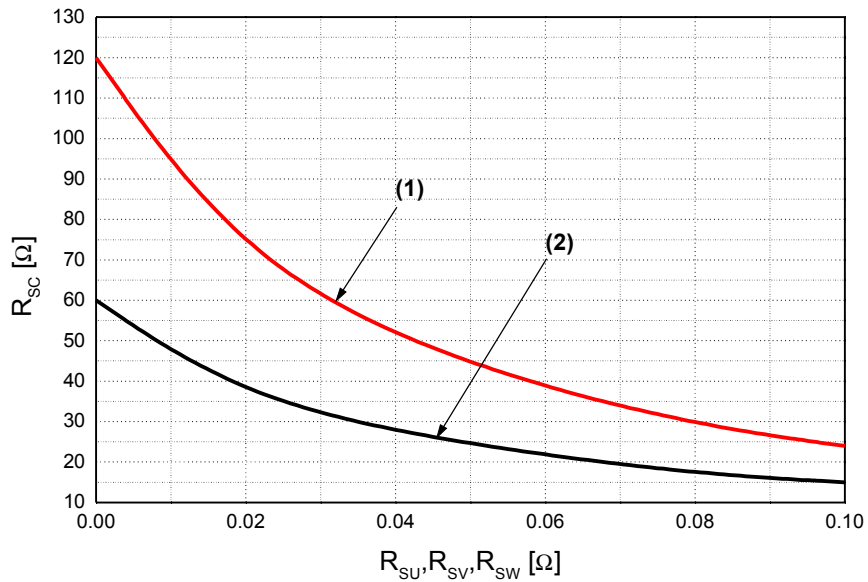

Fig. 7. R_{SC} Variation by change of Shunt Resistors (R_{SU} , R_{SV} , R_{SW}) for Short-Circuit Protection
5. Short-circuit current protection is functioning only at the low-sides. It would be recommended that the value of the external sensing resistor (R_{SC}) should be selected around 60 Ω in order to make the SC trip-level of about 22.5A at the shunt resistors (R_{SU}, R_{SV}, R_{SW}) of 0 Ω . For the detailed information about the relationship between the external sensing resistor (R_{SC}) and the shunt resistors (R_{SU}, R_{SV}, R_{SW}), please see Fig. 7.